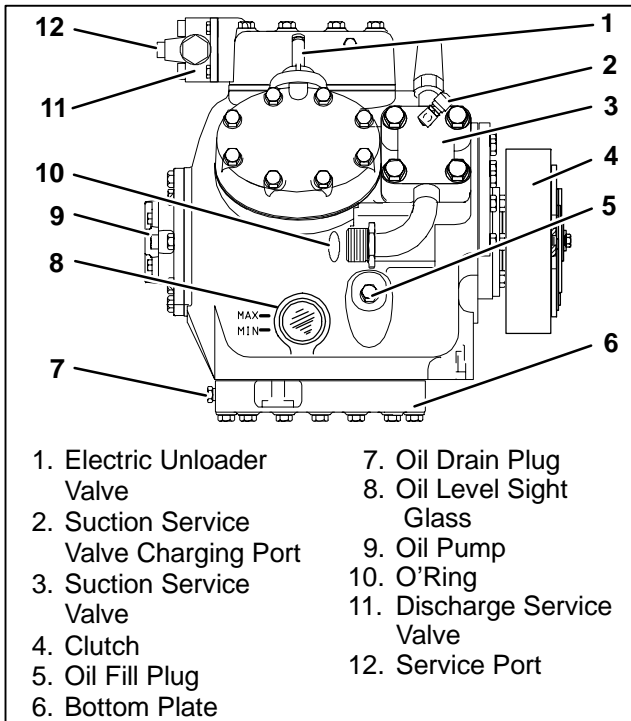

Figure 4-9. Model O5G Compressor
- c. Check the level of oil in oil level sight glass immediately after shutting down the compressor. The lowest level visible should be at the bottom of the sightglass and the highest level should be at the middle of the sight glass. (See Figure 4-9)
If the replacement compressor is shipped without oil, add oil through the oil fill plug. (See Figure 4-9)